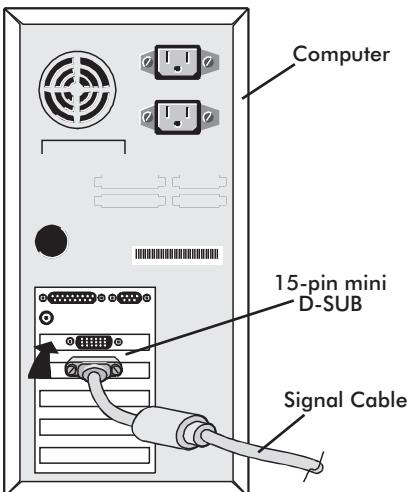
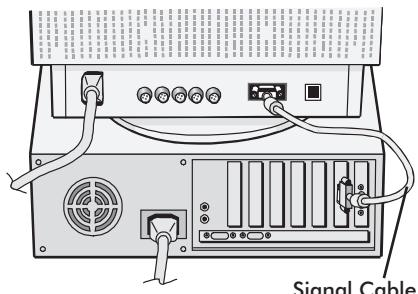

Figure A.1
Figure A.2
2. **For the PC:** Connect one end of the 15-pin mini D-SUB signal cable to the connector of the display card in your system (Figure A.1) and the other end to the back of the monitor (Figure A.2). Tighten all screws.